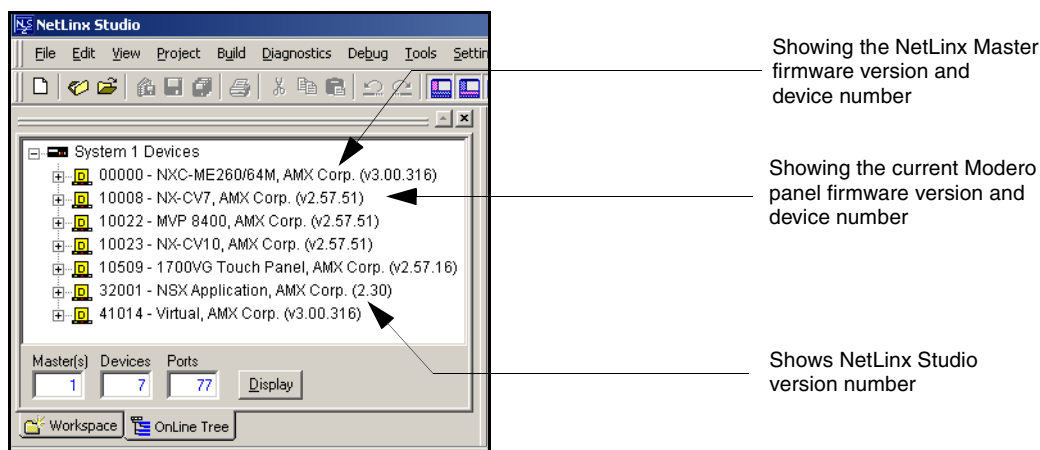

FIG. 81 NetLinx Workspace window (showing connected Modero panel)
3. After the Communication Verification dialog window verifies active communication between the PC and the Master, verify the panel appears in the **OnLine Tree** tab of the Workspace window (FIG. 81). *The default Modero panel value is 10001.*